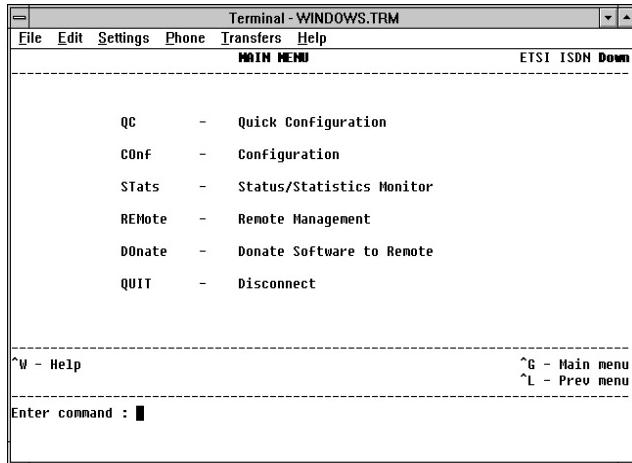

Figure 1-13 The Main Menu Screen
- 3 Enter the default password, **PASSWORD**, using uppercase characters. The Main Menu appears as shown in **Figure 1-13**.